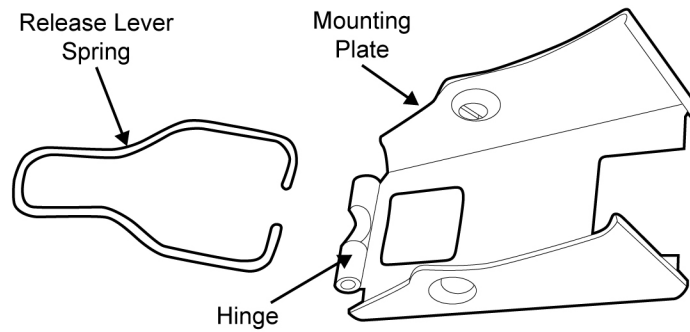

Figure 52. Installing the Release Lever Spring.
- b. Insert the ends of the release lever spring into the hinge on the mounting plate. Refer to Figure 52.